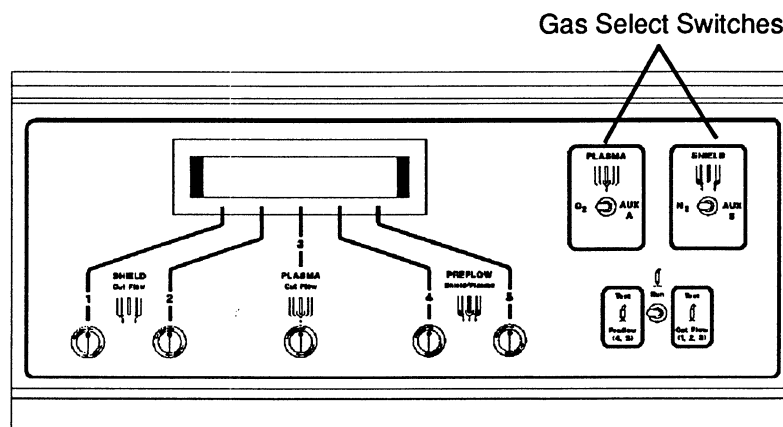

Figure 8 Gas Select Switches
- Select **O₂** and **N₂** or **AUX A** and **AUX B**. (Fig. 8)